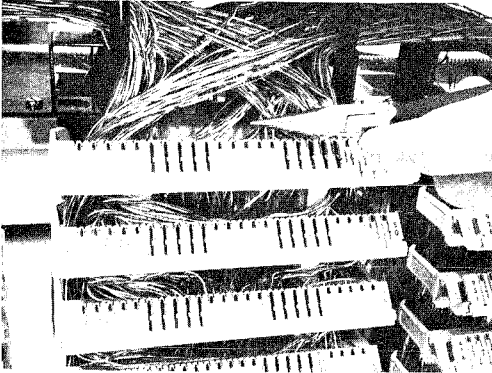

Fig. 11 — Removing Jumper Wire
5.03 Grip the jumper wire, using long nose pliers, approximately 1/4" in rear of module. (See Fig. 11.)